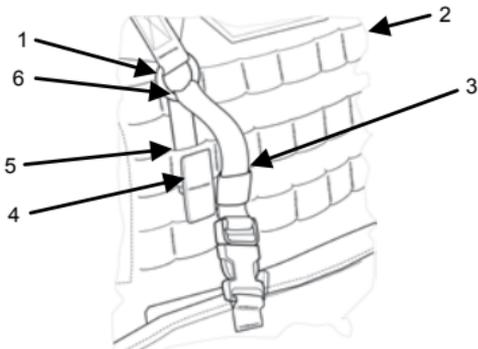

Figure 6. Attaching TAP Vertical Adjustment Strap to IOTV.
1. Insert the stiffener tab (Figure 6, Item 4) on the vertical adjustment strap (Figure 6, Item 6) through the metal D-ring (Figure 6, Item 1) on the front of the IOTV (Figure 6, Item 2), through the ring, from the top of the vest toward the bottom.
2. Continue to route the stiffener tab (Figure 6, Item 4) through the horizontal webbing (Figure 6, Item 5) sewn on IOTV, directly below the D-rings.
3. Secure the stiffener tab (Figure 6, Item 4) by anchoring it to the top-most webbing.
4. Use the vertical adjustment straps (Figure 6, Item 6) and buckles to manipulate the height of the TAP.
5. Use the elastic keepers (Figure 6, Item 3) to stow the excess strap.